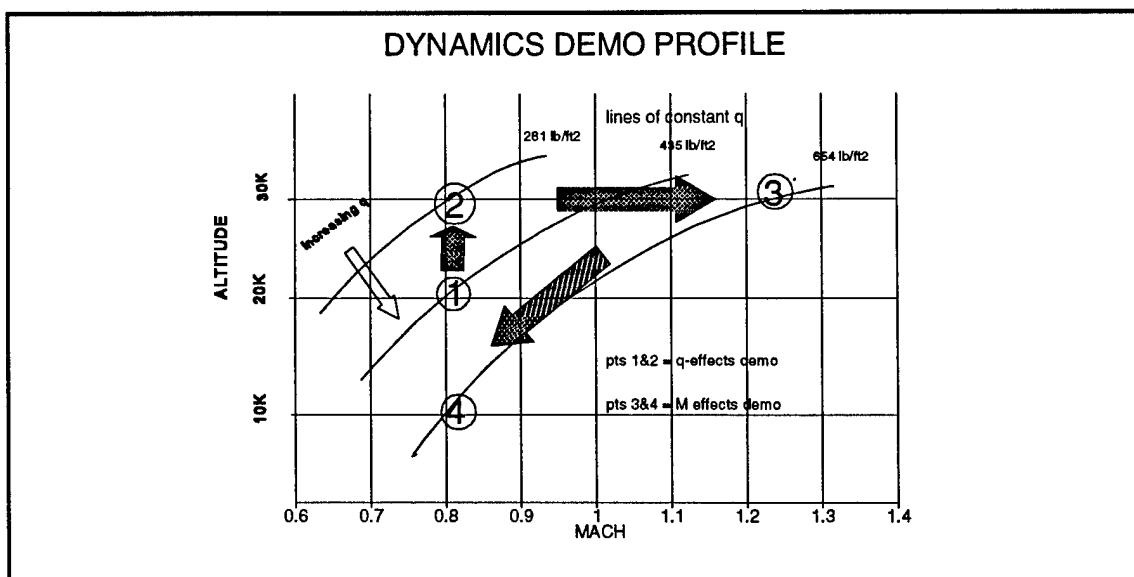

FIGURE 3.1
3. To demonstrate Mach number and dynamic pressure ( $q$ ) effects on the dynamic responses of an aircraft (See Figure 3.1).